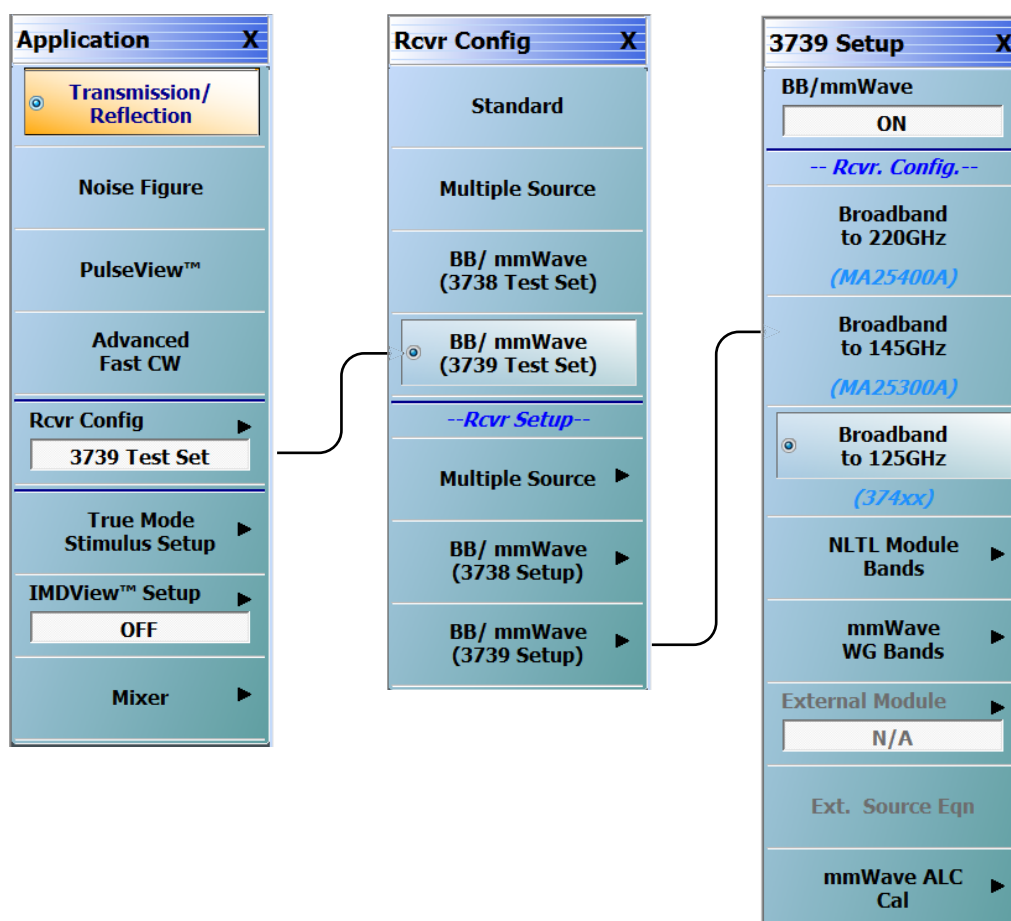

Figure 3-10. 3739 Setup for Broadband Module (MS464xB Menu) – ME7838A4 Example
- Broadband to 125 GHz (for the ME7838A4 system, shown in Figure 3-10)